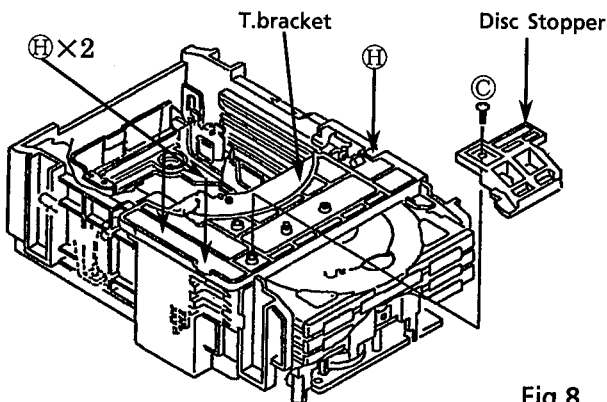

Fig.8
4. Remove 3 screws ⑧ and screw ⑨ securing T.Bracket.(See Fig. 8.)